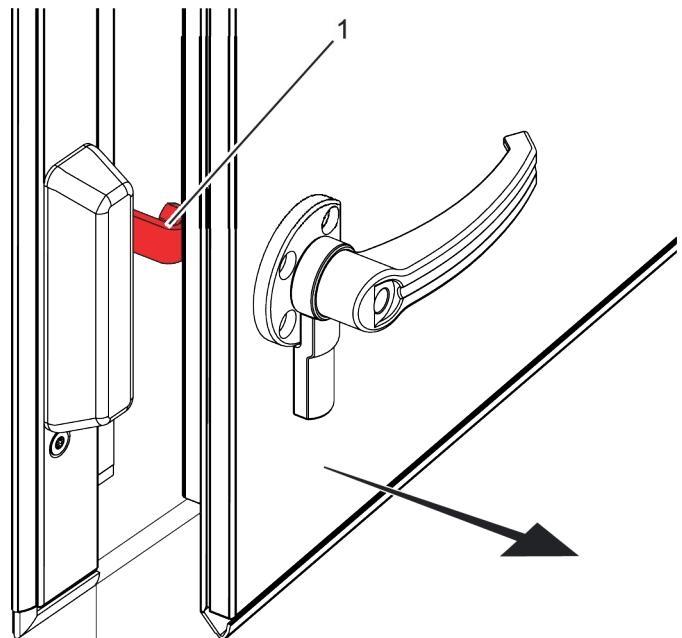

Fig. 17: Applying the safety catch
2. ▶ Carefully open the inspection access door as far as the safety catch will go (Fig. 17/1).